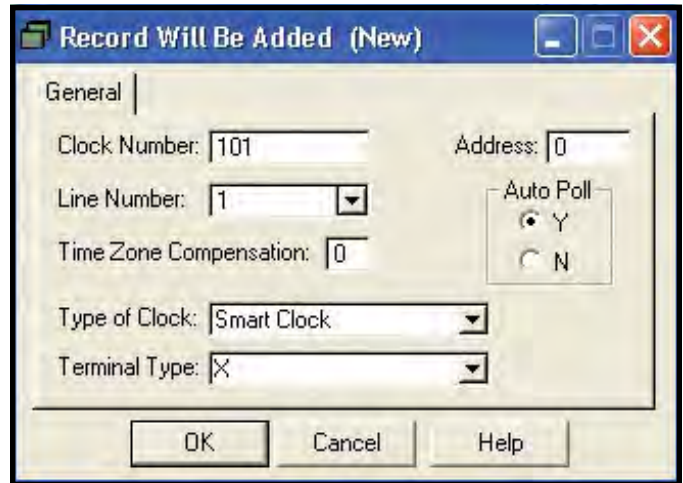

Figure 11. Out-of-the-Box™, Record Will Be Added window
X. The “Record Will Be Added (New)” window will open. The following fields will have to be configured for direct connection use (see Figure 11):